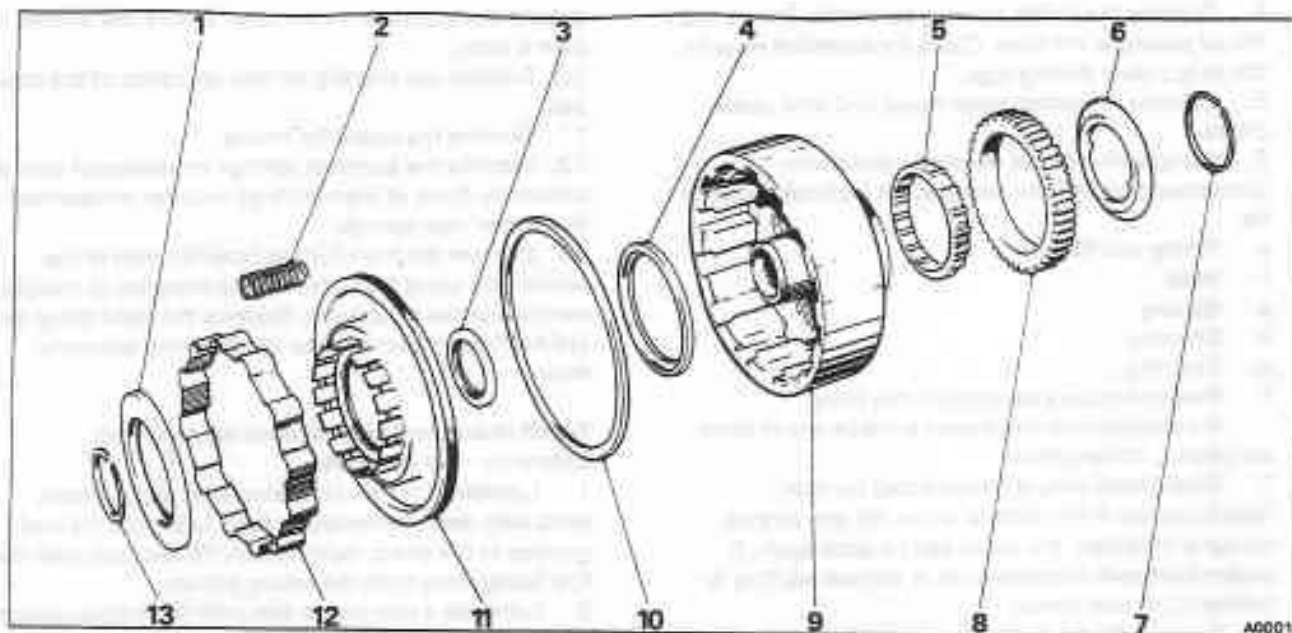

Fig. T19-8 Direct clutch and intermediate sprag assembly
2. Remove the retainer (see fig. T19-8).